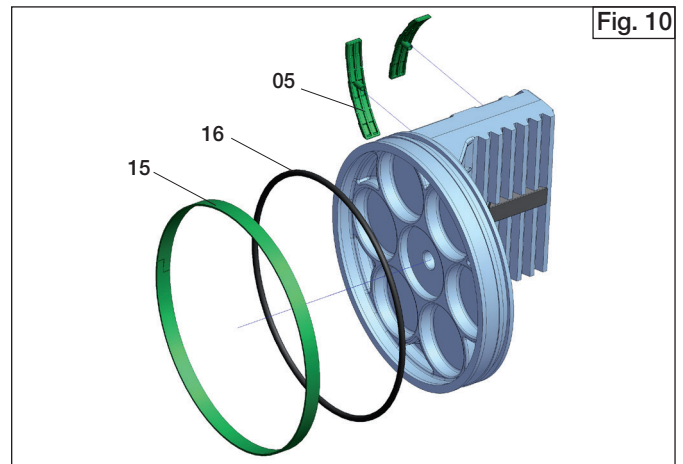

Fig. 10
C) Pistons assembly (Part N° 40 or 40F), Fig. 10,11,12,13 14 and 15:
- Grease and install piston O-rings (16), the Piston skirt (05) and piston head (15) bearings.
- Grease the internal surface of the body (50) and the piston (40) rack teeth.